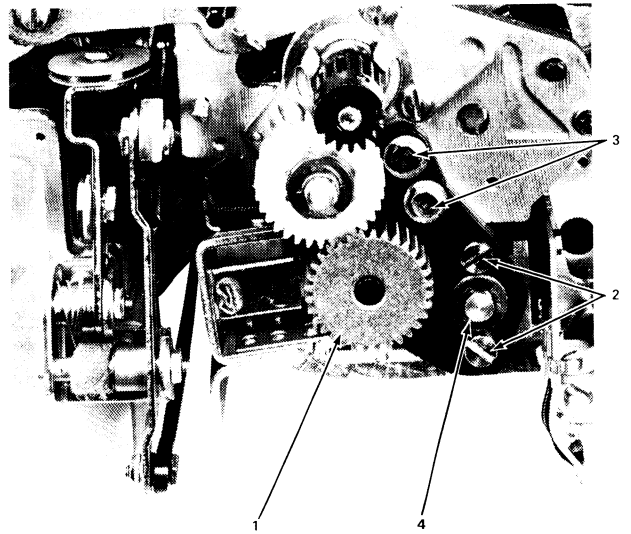

Figure 4-19. Selector Bail Removal (Left Side of Printer, Gear Guard Removed)
4. Remove the lower idler gear (No. 1, Figure 4-19) by removing the two lower screws first (No. 2, Figure 4-19); then remove the two upper screws (No. 3, Figure 4-19) and the C-clip (No. 4, Figure 4-19).